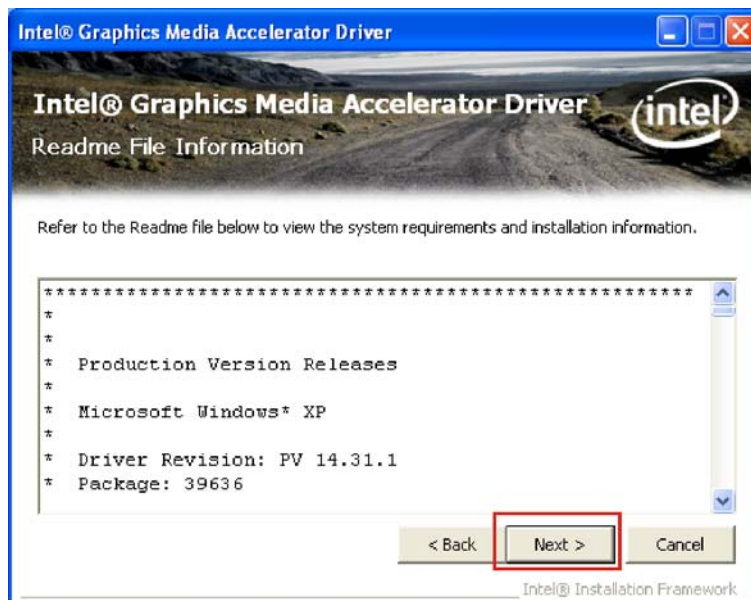

Figure 7-13: VGA Driver Readme File
Step 8: Read the license agreement. Click **YES** to accept the terms and continue installation (**Figure 7-13**).